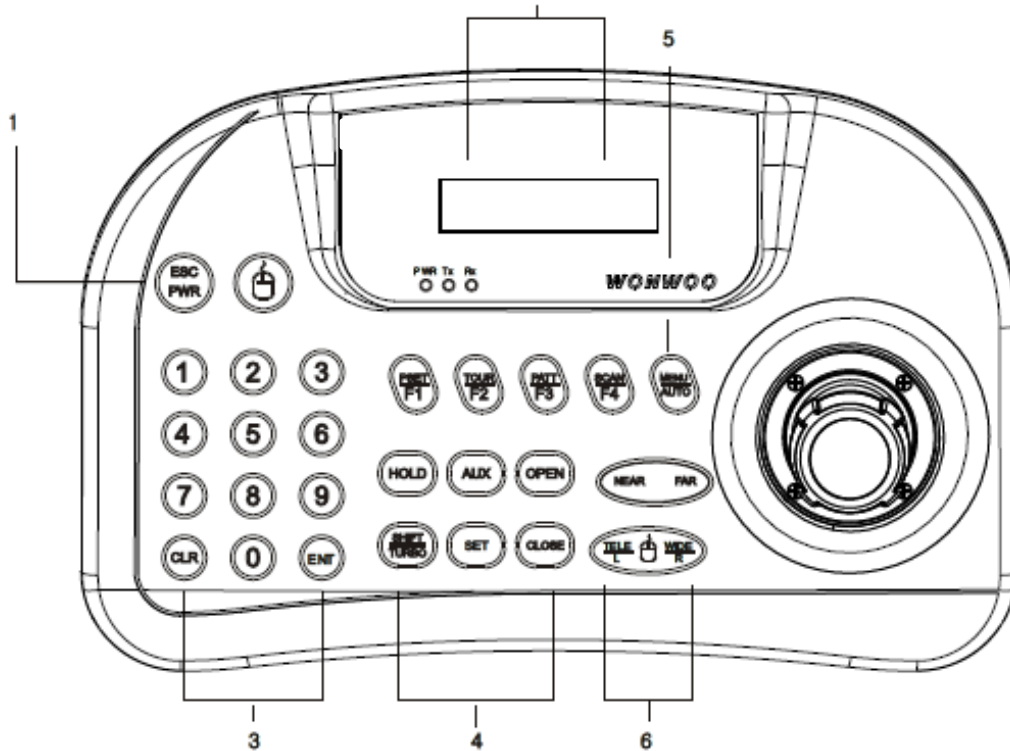

Figure 1. TOP
**Control Buttons** The unit provides the primary operator interface. Most operations are one or two button presses. The following Table contains a description for each buttons on the keyboard. Use Figure 1 as a reference.